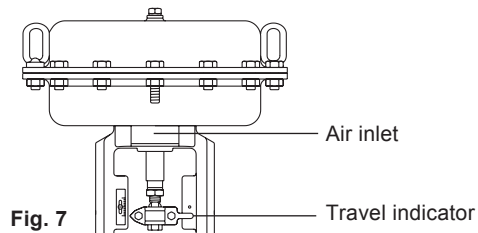

Fig. 7
2. For the pneumatic actuated control valve, remove the existing air supply and connect an independent air supply to the actuator (pressure not to exceed 6 bar g (87 psi g)), allow the valve to fully open, remove the air supply from the actuator allowing the valve to close. Reconnect the original pipework (Figure 7).